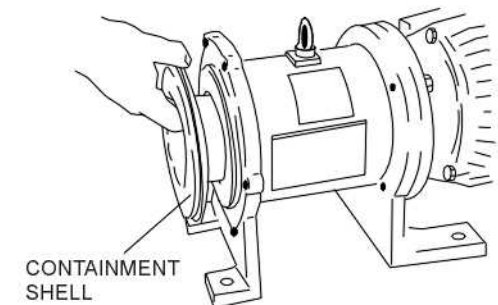

Figure 15
- Remove the containment shell (2) by inserting a straight screwdriver into the depression on the outer perimeter and pull the containment shell and cover forward while lifting it slightly upward. Take extra care not to scratch the sealing surface of the o-ring (11). [Fig. 15]